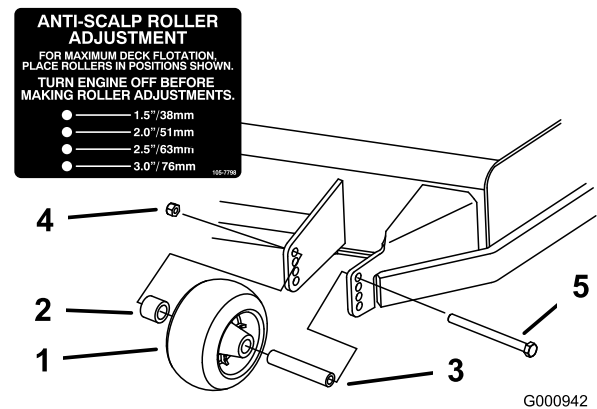

Figure 22
3. After adjusting the height-of-cut, adjust the rollers by removing the flange nut, bushing, spacer, and bolt (Figure 22 , Figure 23 and Figure 24).
5. Install the flange nut bushing, spacer, and bolt. Torque to 40-45 ft-lb (54-61 N-m) (Figure 22 , Figure 23 and Figure 24).